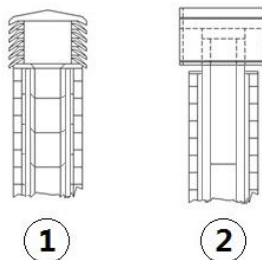

Fig. 3 - Anti-wind chimney pots
- We recommend using an anti-wind chimney pot, see **Fig. 3 page 6**.
- External chimney flue entirely made up of insulated stainless steel pipes, i.e. with double wall of minimum Ø150 mm; all must be firmly attached to the wall. For chimney against wind effects please (see Fig. 3 page 6).